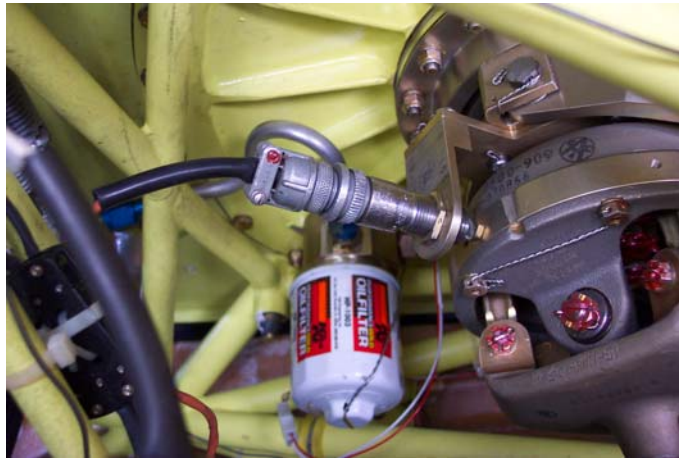

Figure 2. Magnetic pick-up installed in the swashplate bracket.
1. Install the magnetic pick-up in the swashplate bracket (Figure 2).